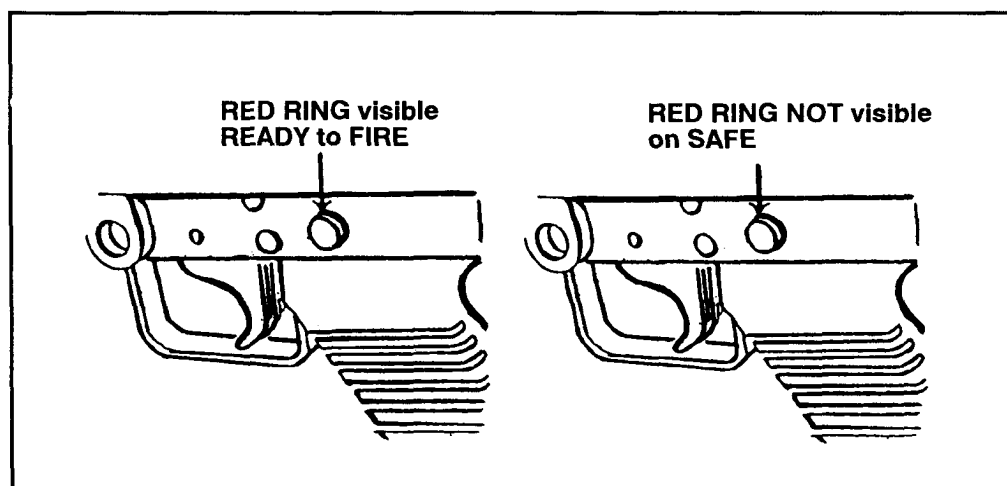

Figure 1-4. M249 AR safety.
b. **Safety.** The safety (Figure 1-4) is in the trigger housing. The safety is pushed from left to right (red ring NOT visible) to render the weapon SAFE, and the bolt cannot be released to go forward. The safety is pushed from right to left (red ring visible) to render the weapon ready to fire. The cocking handle on the right-side of the weapon is used to pull the bolt to the rear.